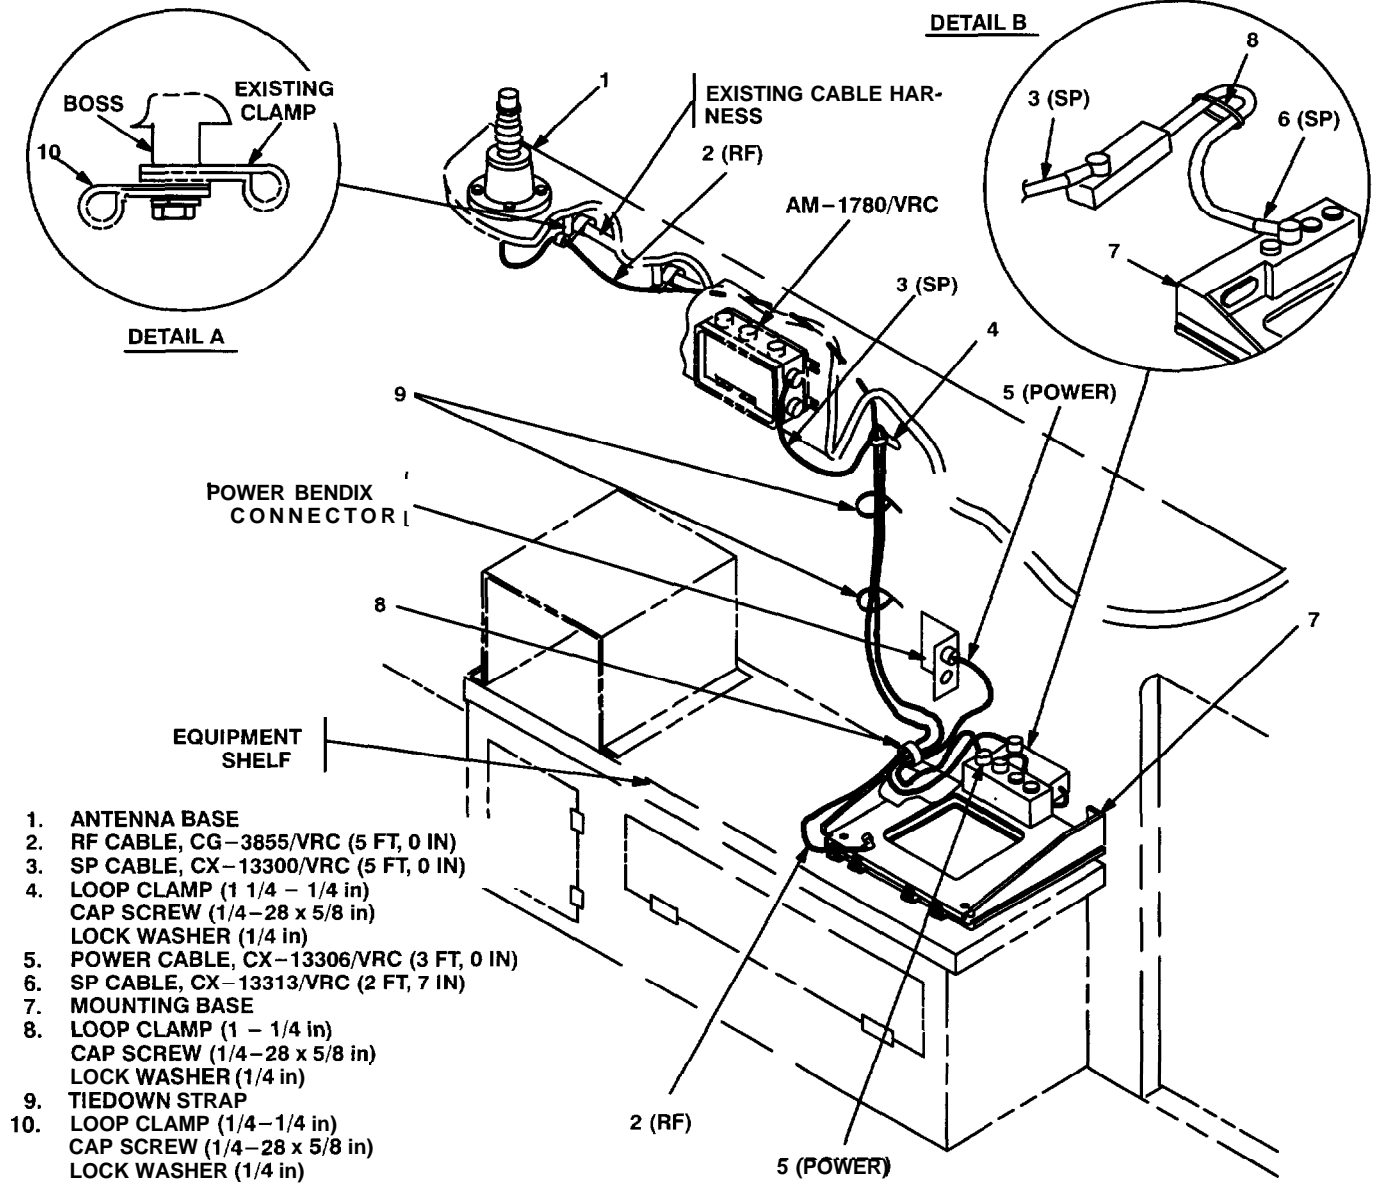

Figure 5-5. Cable Installation: Curbside Interior
a. RF cable (2) connector P1.	Connect and secure to antenna base (1) connector J1. See figure 5-5.
b. RF cable (2).	Route along existing cable harness and down to equipment shelf.